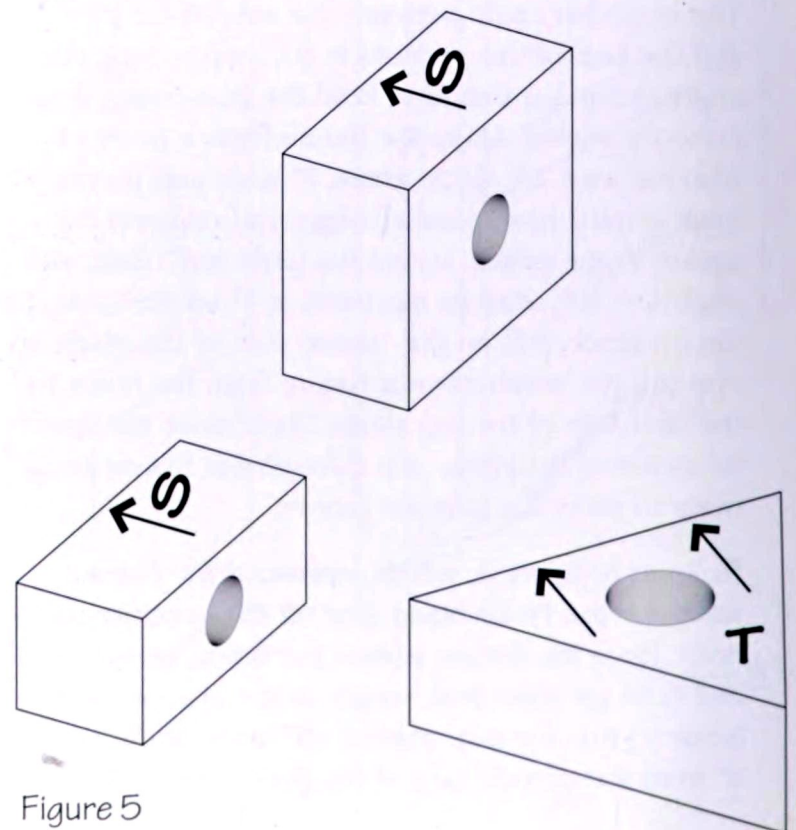

Figure 5
3. On the top side of each of the shelf guides (that is, the top side if each were still part of its shelf), draw an arrow pointing toward one of the drilled faces. Label the arrow "S" for "shelf." On a triangular end of the post guide, draw an arrow toward one of its faces. Then turn it over and draw another arrow toward the same face. Mark one side "T" for "top," and mark the other side "B" for "bottom," or "base," or "below," or "be done, already." (See figure 5.)
5. Center the top shelf (A), top upwards, on the base, and clamp it. Hold the post guide against a corner of the shelf, arrow pointed at the shelf and